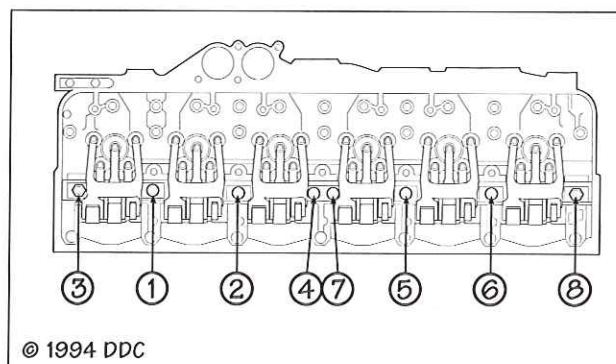

FIG. 66
10. Tighten the bolts and nuts to 80 lb.-ft. (110 N•m) following the sequence shown in Fig. 66.